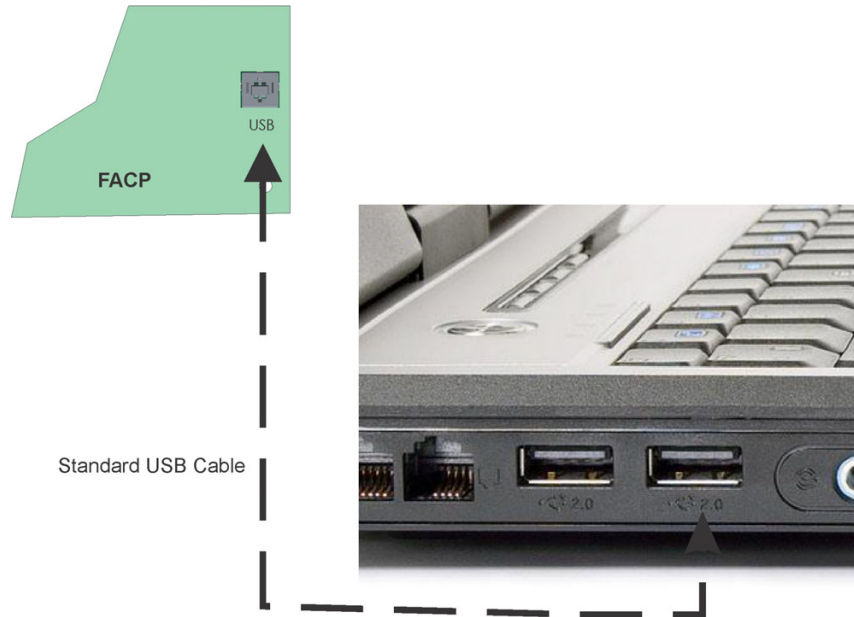

Figure 11.8 USB Cable Connections
2. Connect the PC to the FACP USB port using a standard USB cable. ECS-NVCM will use the USB on the FACP (See Figure 11.8 on page 171). ECS-VCM will use the USB port on the ECS-VCM.